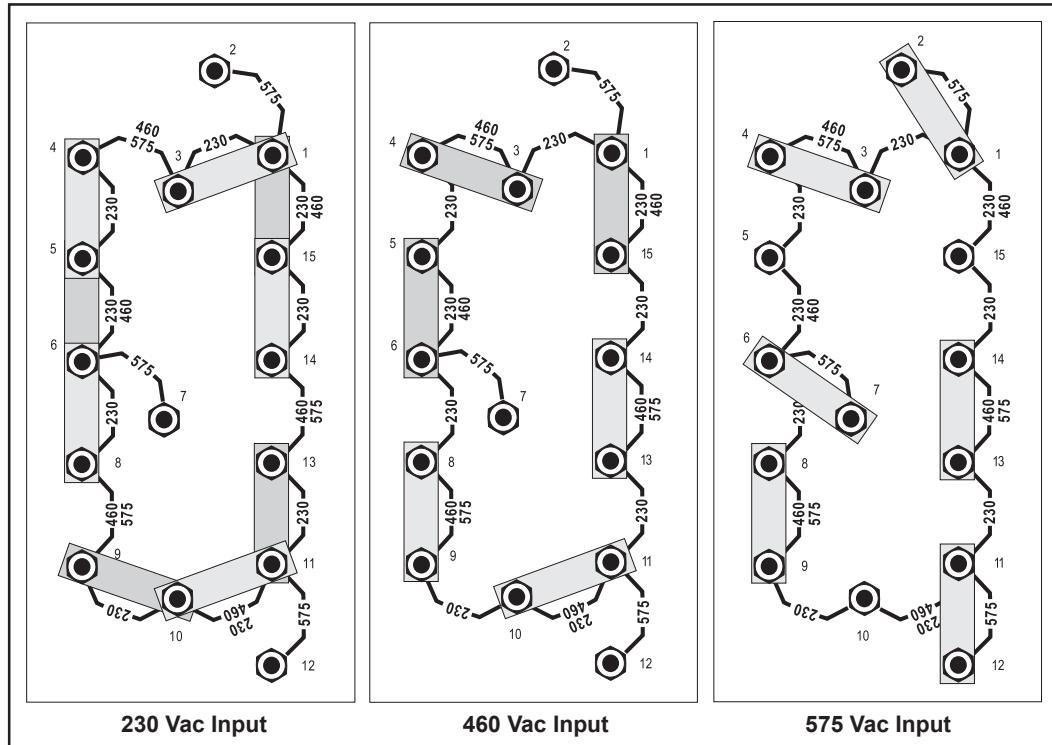

Figure 3-3. Input Terminal Board Configuration for 230/460/575 Model
5. Figures 3-3 thru 3-5 illustrate the input voltage terminal board and the input voltage link connections. The particular voltages from which this power source may be operated are stated on the rating plate. The voltage links were factory set for highest voltage stated on the rating plate (575VAC). If the power source is to be operated on another stated input voltage, the links must be reset for that particular input voltage. Always verify the input voltage and check the link arrangement regardless of factory setting. The voltage links are set up by reconfiguring the copper link bars to the silk-screened voltage designations for the desired voltage.